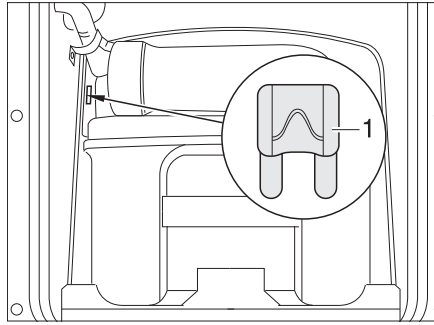
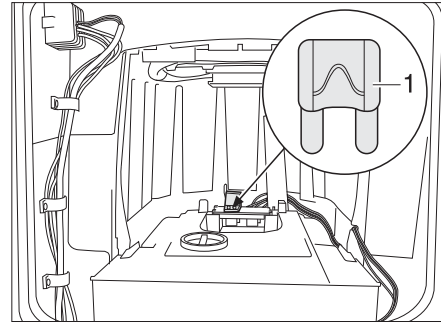

Fig. 239 Fuse for the Thetford toilet
Fig. 240 Fuse for the Thetford toilet (alternative)
- Replace fuse (Fig. 239,1 or Fig. 240,1).